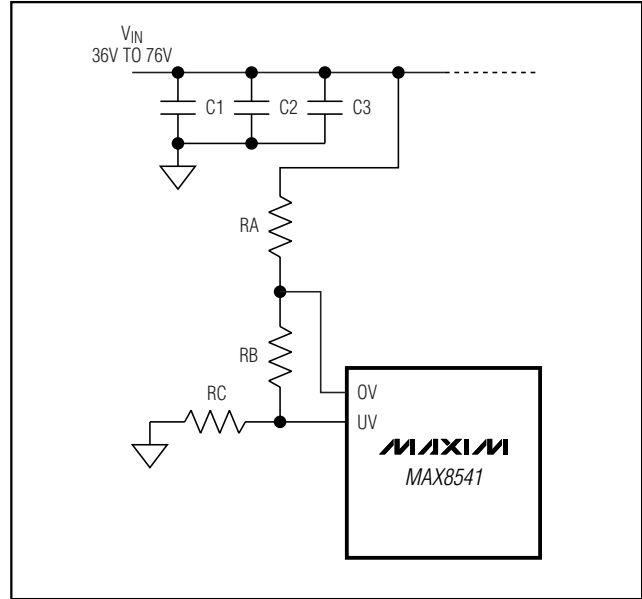

Figure 1. A Method to Set UV and OV Thresholds
An alternate method used in the application circuits for setting the OV and UV trip points is demonstrated in Figure 1. Use 36.5k Ω for the bottom resistor (RC). RA and RB are calculated as follows: